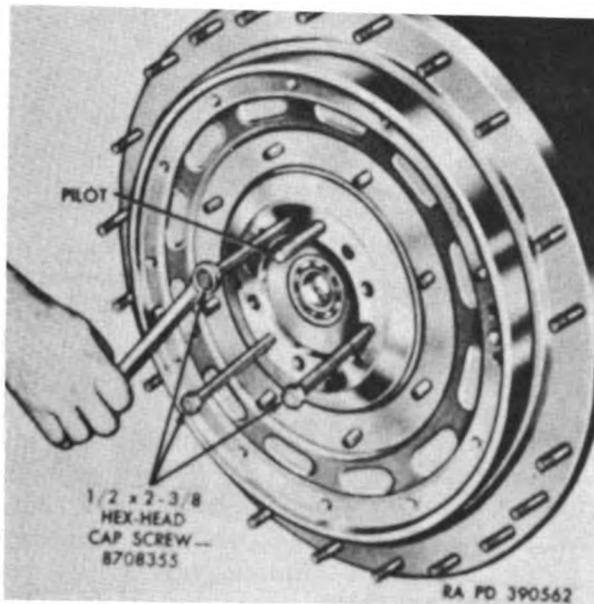

Figure 58. Removing flywheel (model AOSI-895-5M engines only).
(2) Remove flywheel.
- (b) Cut the head from a  $\frac{1}{16} \times 3$  (or longer) hex-head bolt and screw bolt into uppermost mounting bolt hole in crankshaft flange as shown in figure 58. The bolt will act as a pilot to support flywheel when removed from dowel pins.
- (c) Remove flywheel from crankshaft dowel pins using three hex-head screws 8708355 (fig. 58). Remove pilot bolt and place with tools.